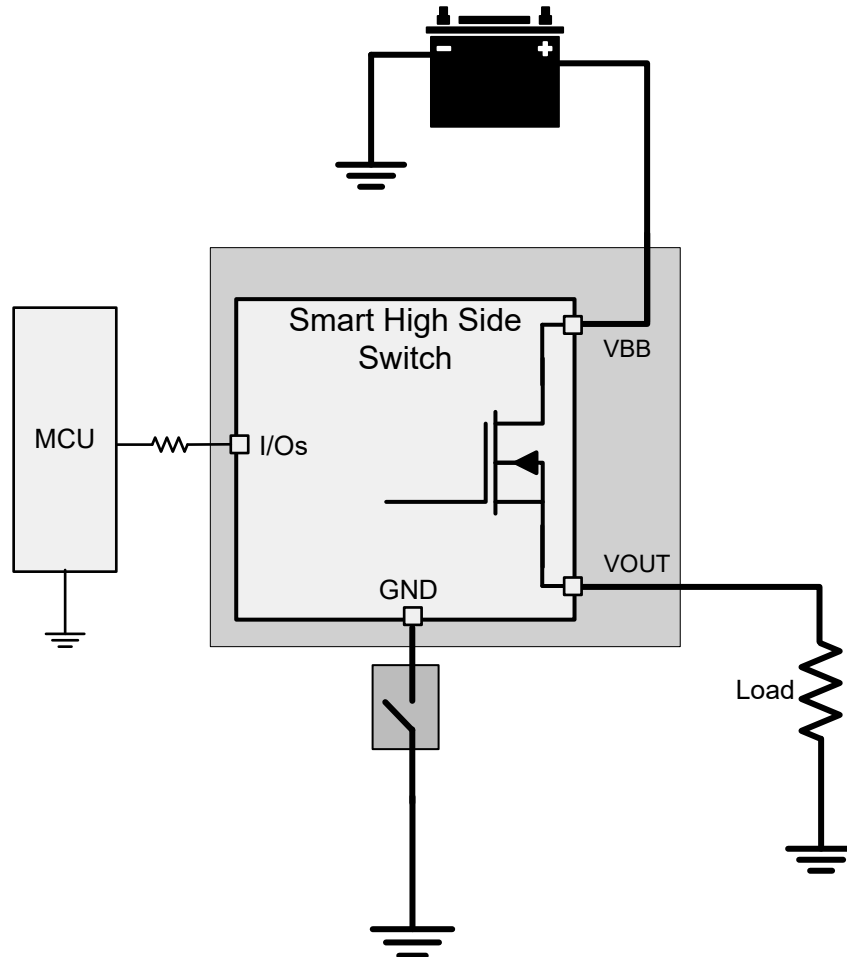

Figure 7-18. Loss of Device GND
**Case 1 (loss of device/IC GND):** loss of GND protection is active when the thermal pad ( $T_{ab}$ ), IC GND, and current limit ground are one trace connected to the system ground, as shown in Figure 7-18.